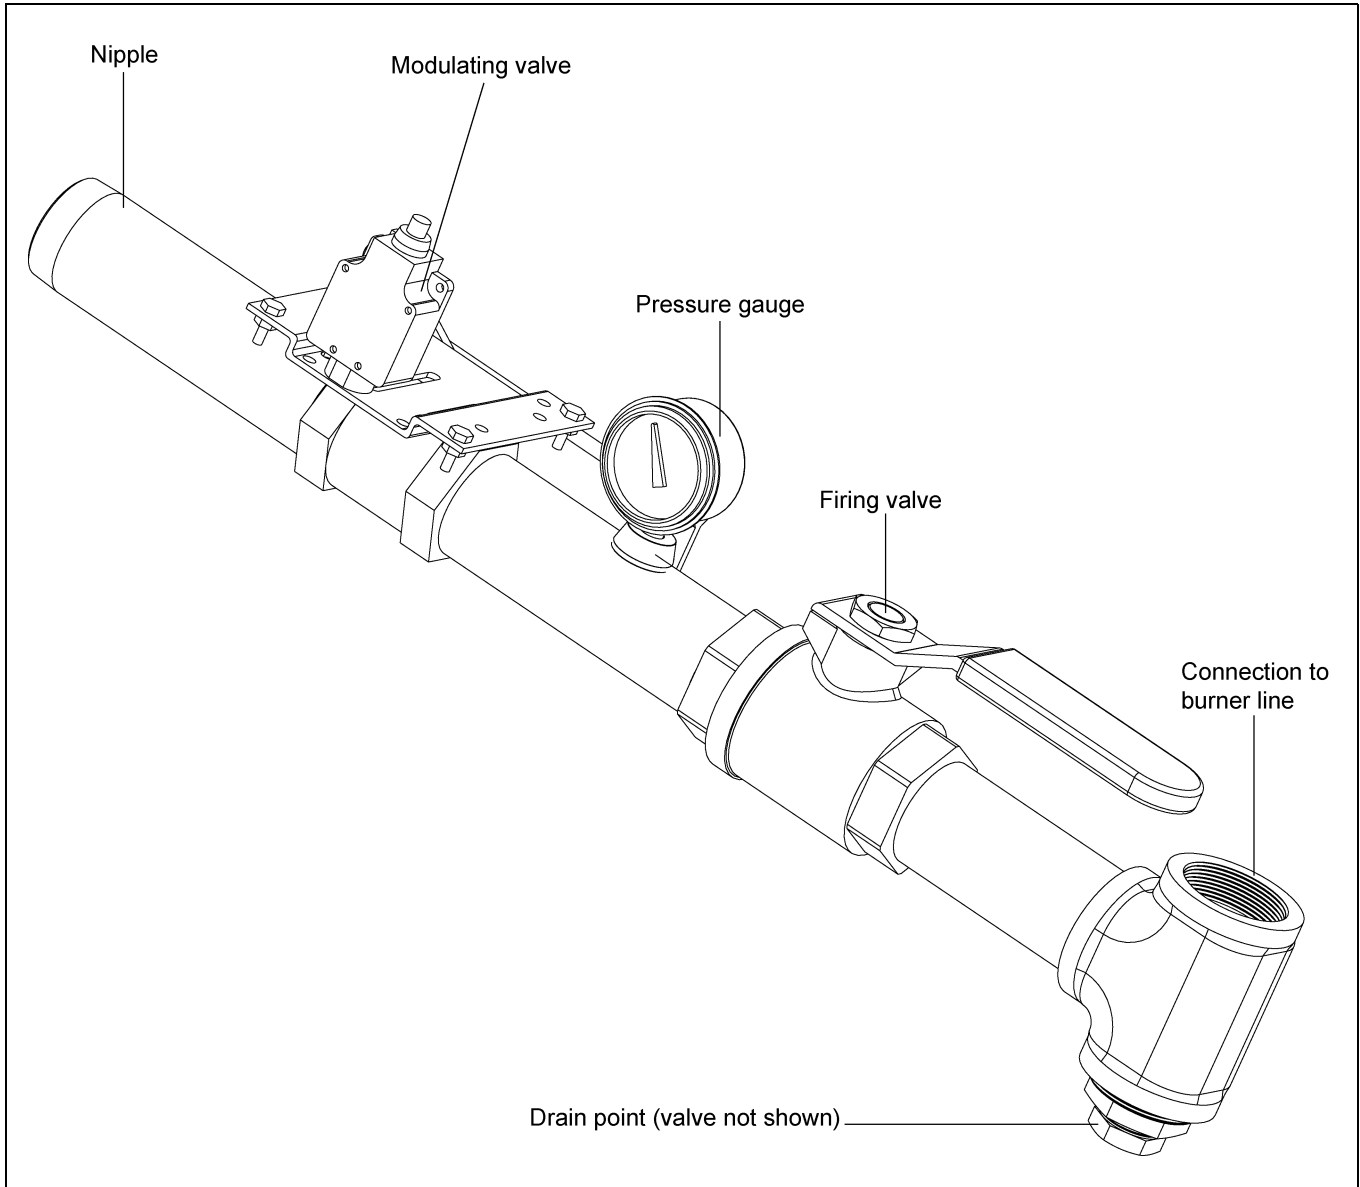

Figure 3F
6. Burner pressure with modulating valve at maximum read at burner pressure gauge. (See Figure 3F on Page 19.)
7. Burner pressure with modulating valve at minimum read at burner pressure gauge. (See Figure 3F on Page 19.)
- b. Close firing valve. (See Figure 3F on Page 19.)
- f. Read pressure at burner gauge. (See Figure 3F on Page 19.)
- d. Read pressure at burner gauge. (See Figure 3F on Page 19.)